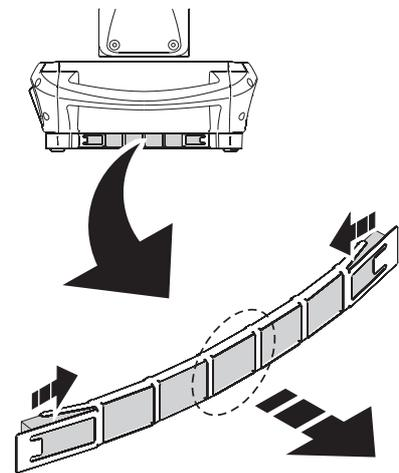

Figure 18: Base air filters
3. See Figure 18. On each side of the base, pinch the air filter holders from the sides as illustrated, then pull the center of the holders outwards to unclip and remove them.